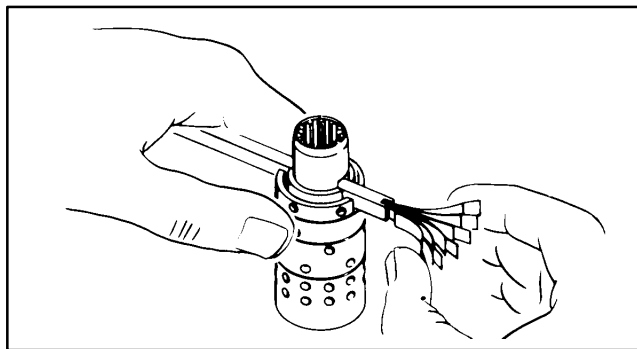

Figure 39
6. Bring spring slots of both parts in line and stand parts on end of bench. Insert spring installation tool through spring slots of both parts. Tool is available from an Eaton hydraulics supplier as Eaton part no. 600057. Position 3 pairs of centering springs (or 2 sets of 3 each) on bench so that extended edge is down and arched center section is together. In this position, insert one end of entire spring set into spring installation tool, as shown in Fig. 39, with spring notches facing sleeve.